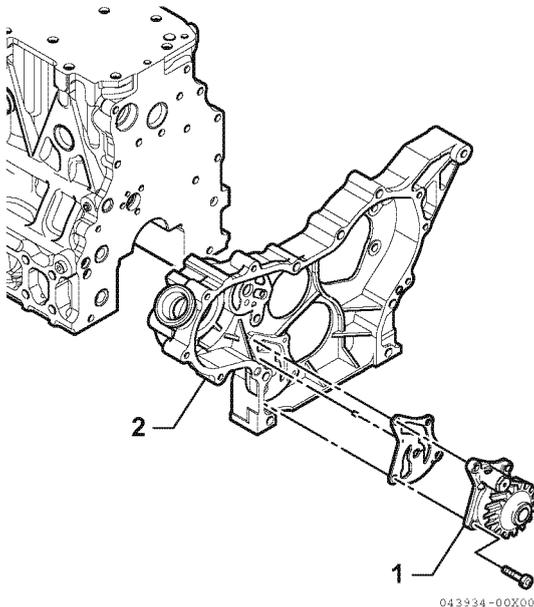

Figure 9-5
3. Remove the lubricating oil pump assembly mounting bolts. Remove the lubricating oil pump assembly (1, **Figure 9-5**) from the gear case flange (2, **Figure 9-5**).
4. You can remove by hand the lubricating oil pump cover (3, **Figure 9-5**) and outer rotor (4, **Figure 9-3**).